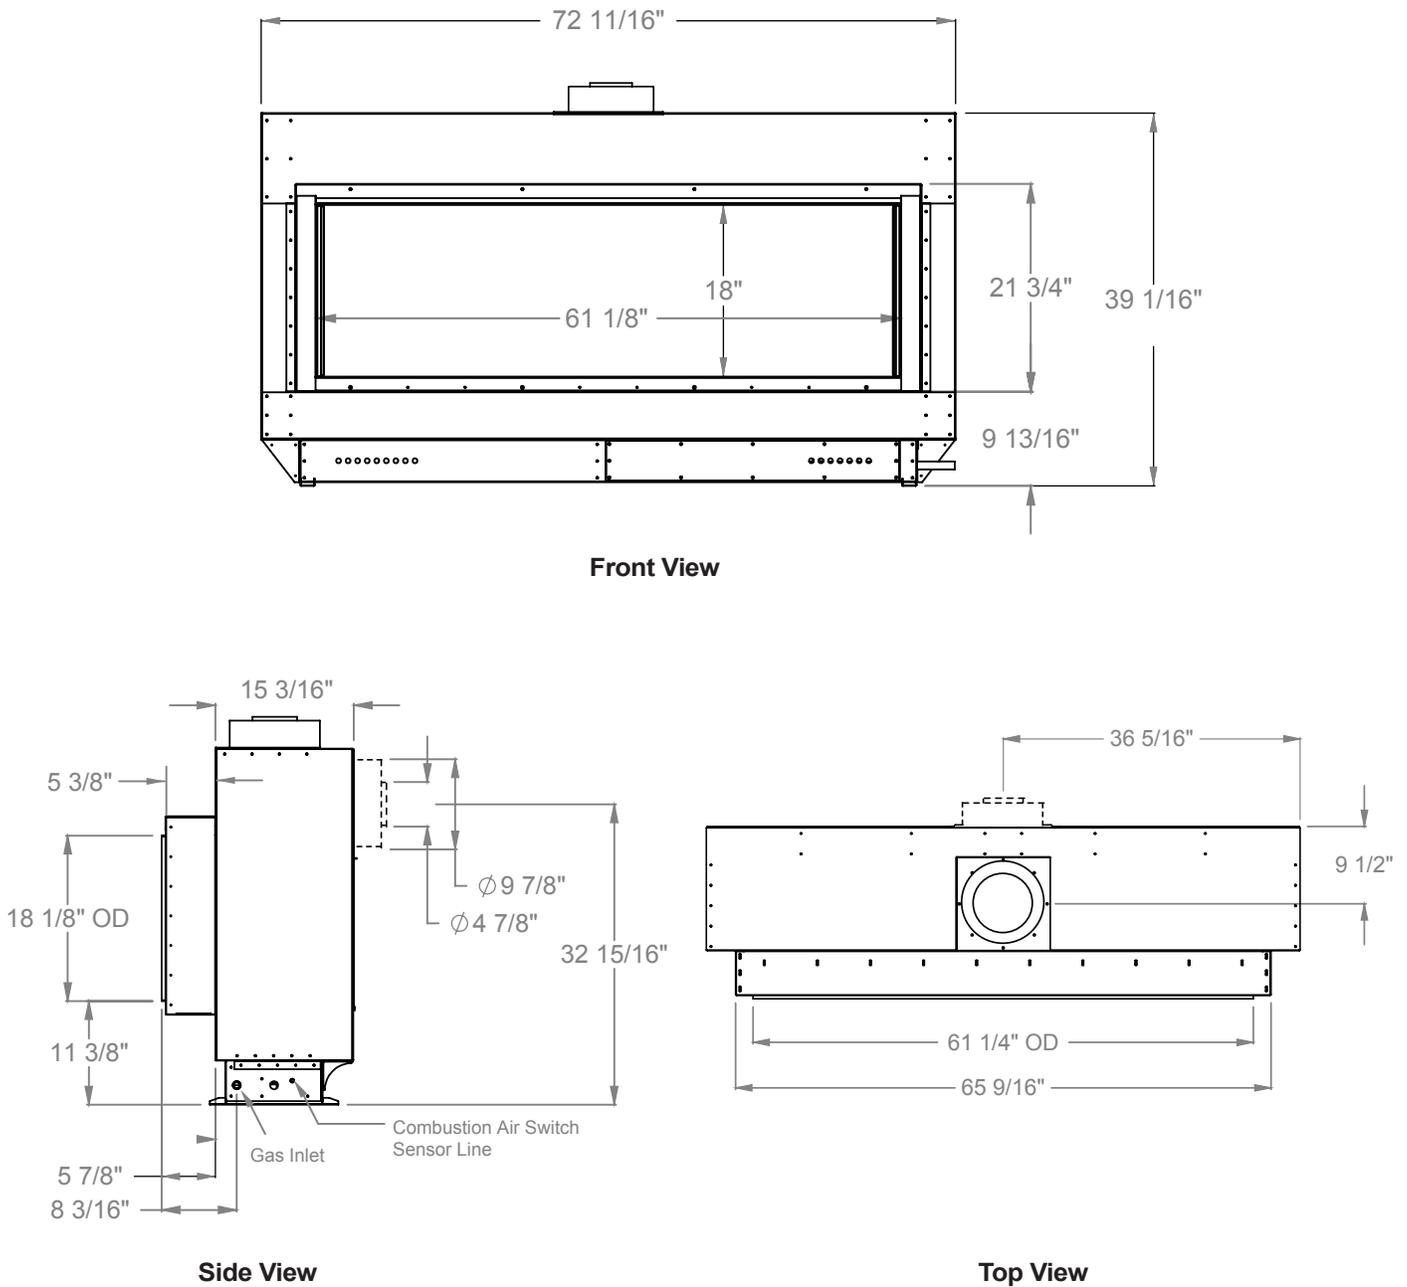
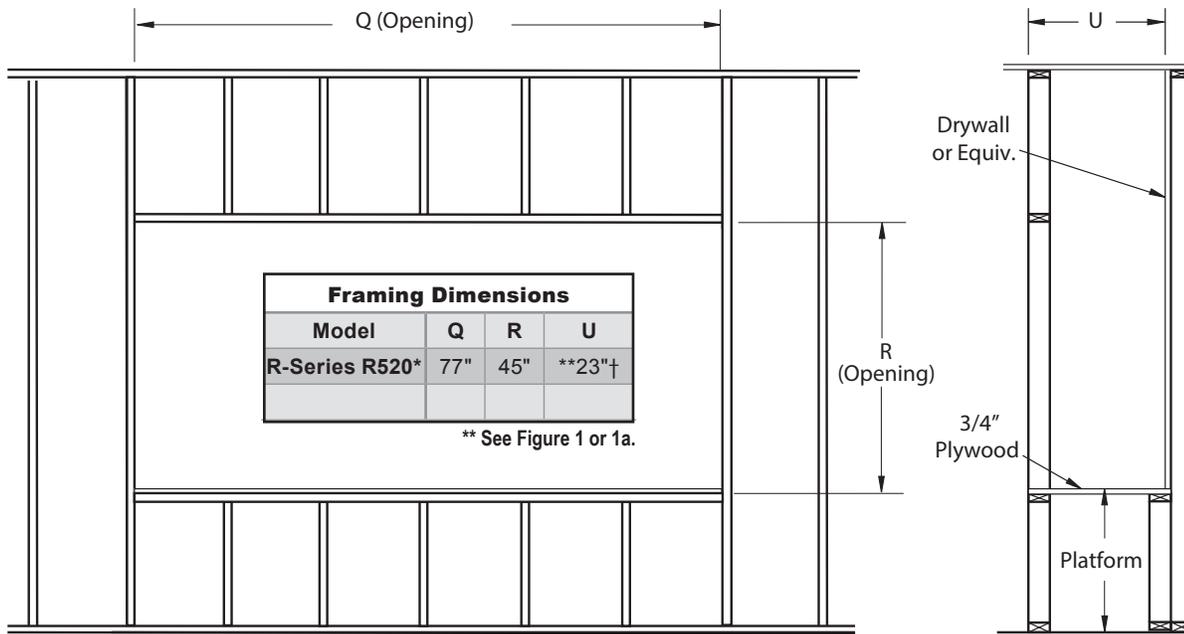

Figure 1. R520\* Fireplace dimensions (Tolerance  $\pm 1/8"$ ).
Figure 3. Fireplace installation, (Rough Frame-In dimensions).
**Frame in the enclosure for the unit with framing materials, see Figure 3.**
Determine the height of the platform based on where you want the bottom edge of the glass to be, see **figure 1 or 1a** for unit dimensions. Maintain minimum ceiling height shown in table. Build fireplace frame as shown in **figure 3**.